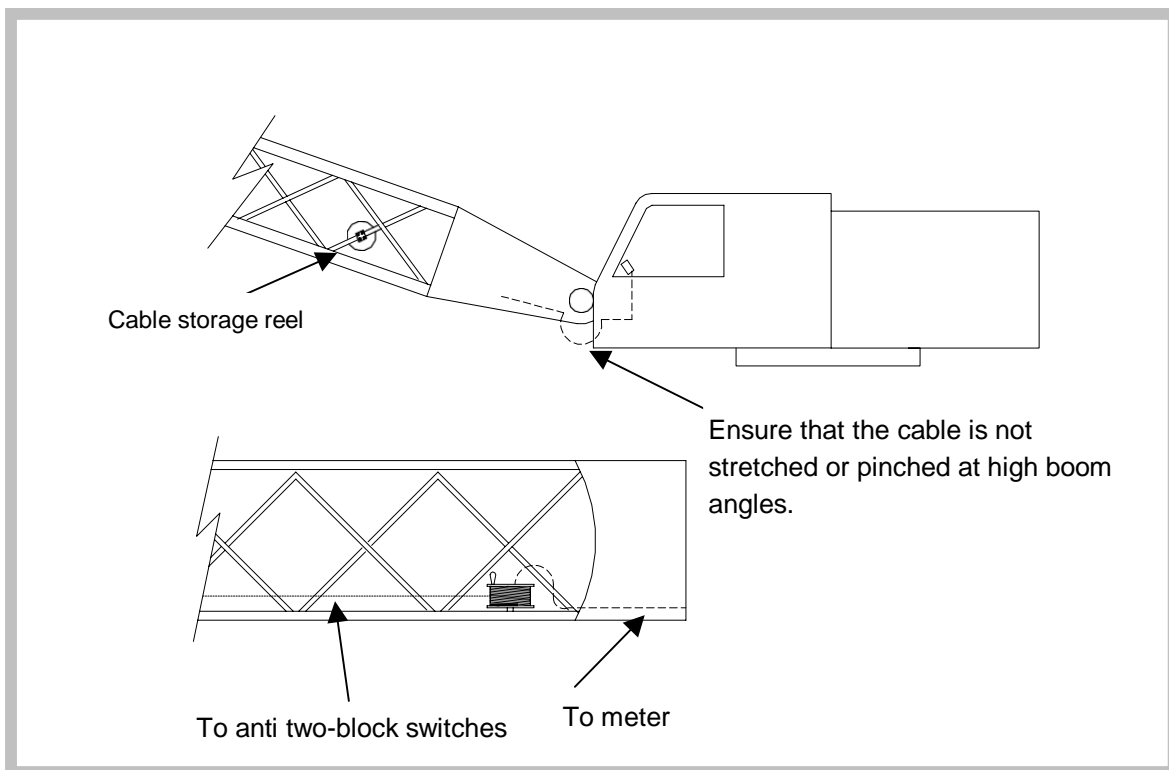

FIGURE 4. THE CABLE STORAGE REEL - LATTICE
Refer to Figure 4 below. The cable storage reel (A240105) is a hand-cranked extension reel that can accommodate enough cable for maximum boom length. Excess loadcell or anti two-block cable for shorter boom lengths can be stored in this reel.
1. Connect the (A048075-22) cable into the connector from the meter. Route the rest of the cable out to the boom base and anchor, as needed. Leave enough slack at the point where the cable goes from the superstructure to the boom near the pivot pin to prevent stretching or abrasion with full range boom movement. See Figure 4, page 6.